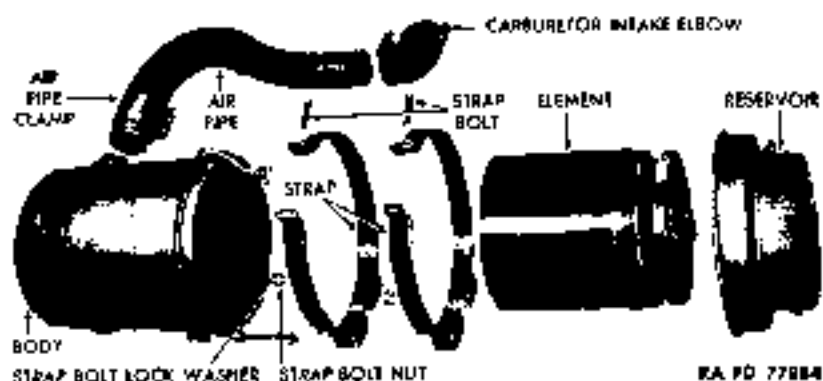

Figure 35 - Carburetor Air Cleaner Disassembled
(1) **DESCRIPTION** (figs. 35 and 36). The air cleaner is attached to a bracket mounted outside the right-hand frame side rail at rear of the engine, and is accessible through an opening in the cab skirt. It is connected to the carburetor by an air pipe. Foreign particles are fil-
b. **Maintenance** (figs. 35 and 36). Remove and refill reservoir at intervals indicated in paragraph 17.
(1) **DISCONNECT AIR PIPE FROM CARBURETOR** (fig. 36). Loosen carburetor intake elbow clamp screw (fig. 35). Pull elbow from carburetor.